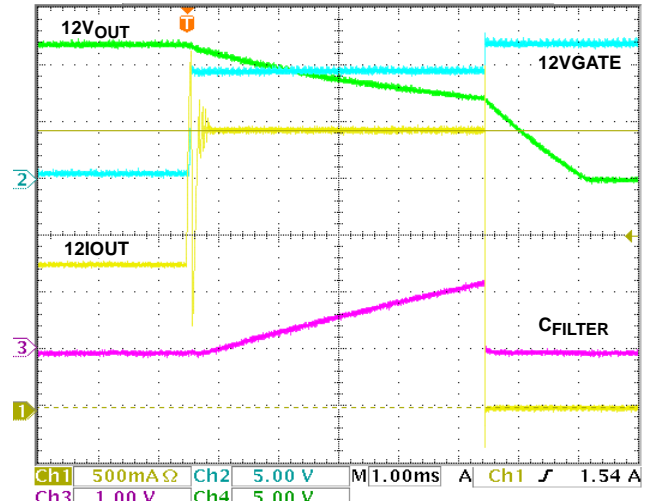
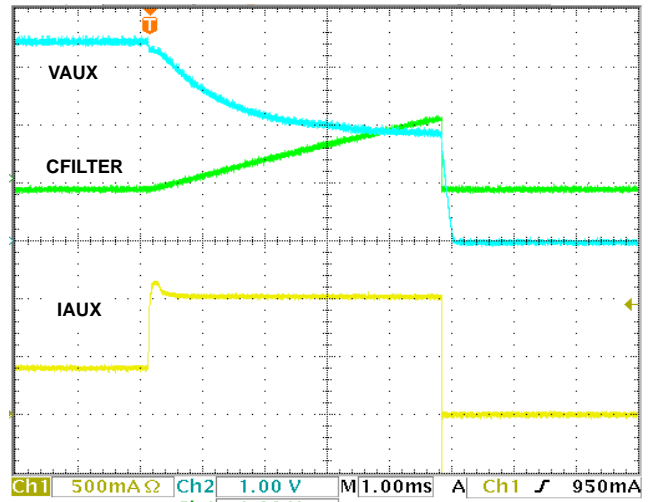

FIGURE 12. ISL6113 12VMAIN CR AND SHUTDOWN
FIGURE 16. VAUX OC REGULATION AND SHUTDOWN
The ISL6113, ISL6114 provides a current limiting function that protects the input voltage supplies against excessive current loads, including short circuits during turn-on (MAIN supplies shown in previous Figures 3 through 11) and during static operation for both MAIN (Figures 12 through 15) and AUX supplies (Figures 16 and 17). When during static operation, any load current causes >V_{THLIMIT} (nominally 50mV) drop across a sense resistor thus exceeding the programmed CR limit, the
The VAUX outputs have a different circuit-breaker function. The VAUX circuit breakers do not incorporate a fast-trip detector, instead they regulate the current into a fault to avoid exceeding their operating current limit. The circuit breaker will trip due to an overcurrent on VAUX when the programmable CR duration timer, t_{FLT} expires. This use of the t_{FLT} timer prevents the circuit breaker from tripping prematurely due to brief current transients. See Figures 16 and 17 for illustrations of the VAUX protection performance into an over current (OC) and more severe OC condition respectively. The ISL6113, ISL6114 AUX current control responds proportionally to the severity of the OC condition resulting in appropriately fast VAUX pull down and current regulation until t_{FILTER} has expired.